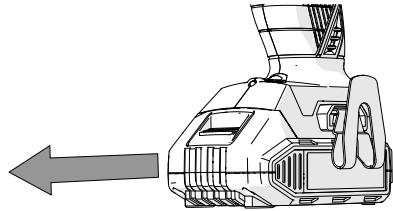

Fig. 1
- Press the battery release button and gently slide the battery pack off (Fig.1).